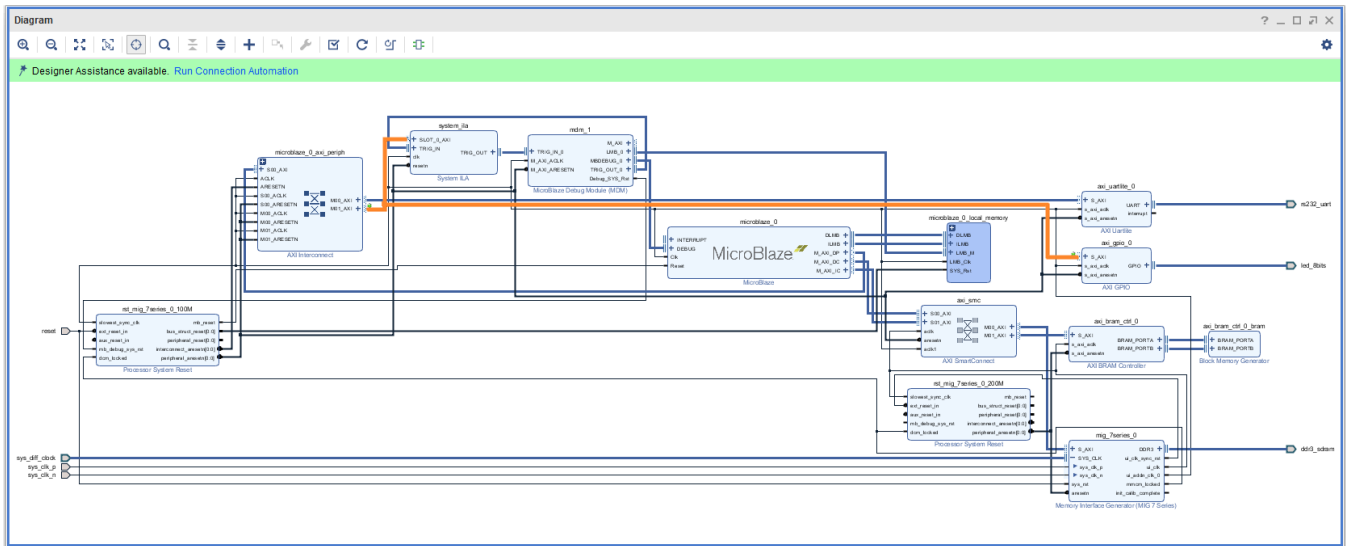

Figure 100: Block Diagram After Regenerating the Layout
- Click the **Regenerate Layout** button  in the IP Integrator toolbar to generate an optimum layout for the block design. The block diagram looks like Figure 100.